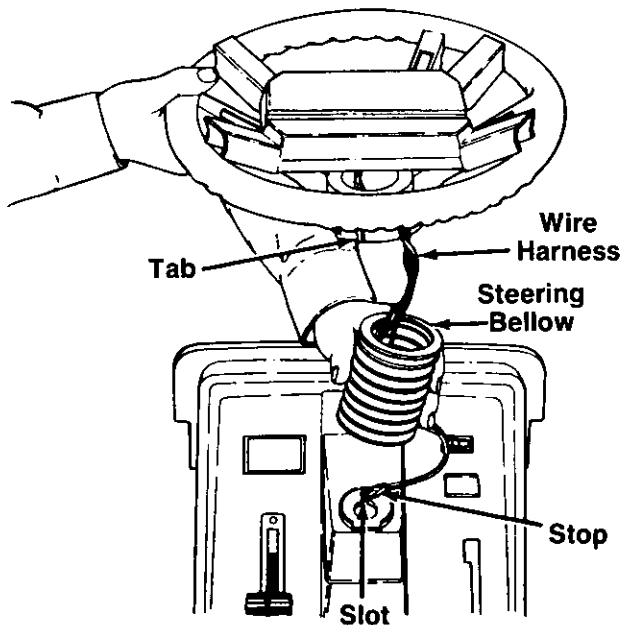

FIGURE 3.
2. Place the larger end of the steering bellow over the wire harness extending through the steering wheel (bellow must fit over the four tabs on the steering wheel). See figure 3.
3. Insert the ends of the wire harness down through the hole in the dash. Then slide the wires through the slot into the smaller hole in the dash to the stop (tape) on the harness as shown in figure 3. Only about 6" of wire will extend beneath the dash.